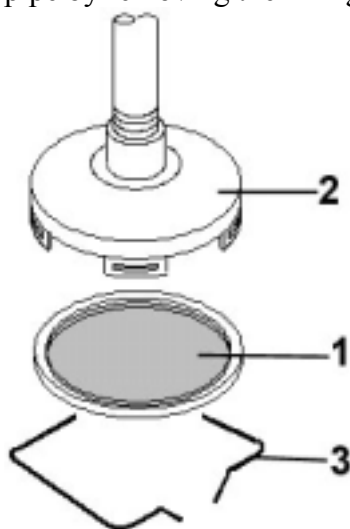

Fig.36
6) Remove the filter (fig. 36) placed at the end of the suction pipe by removing the fixing spring and clean it using a solvent.